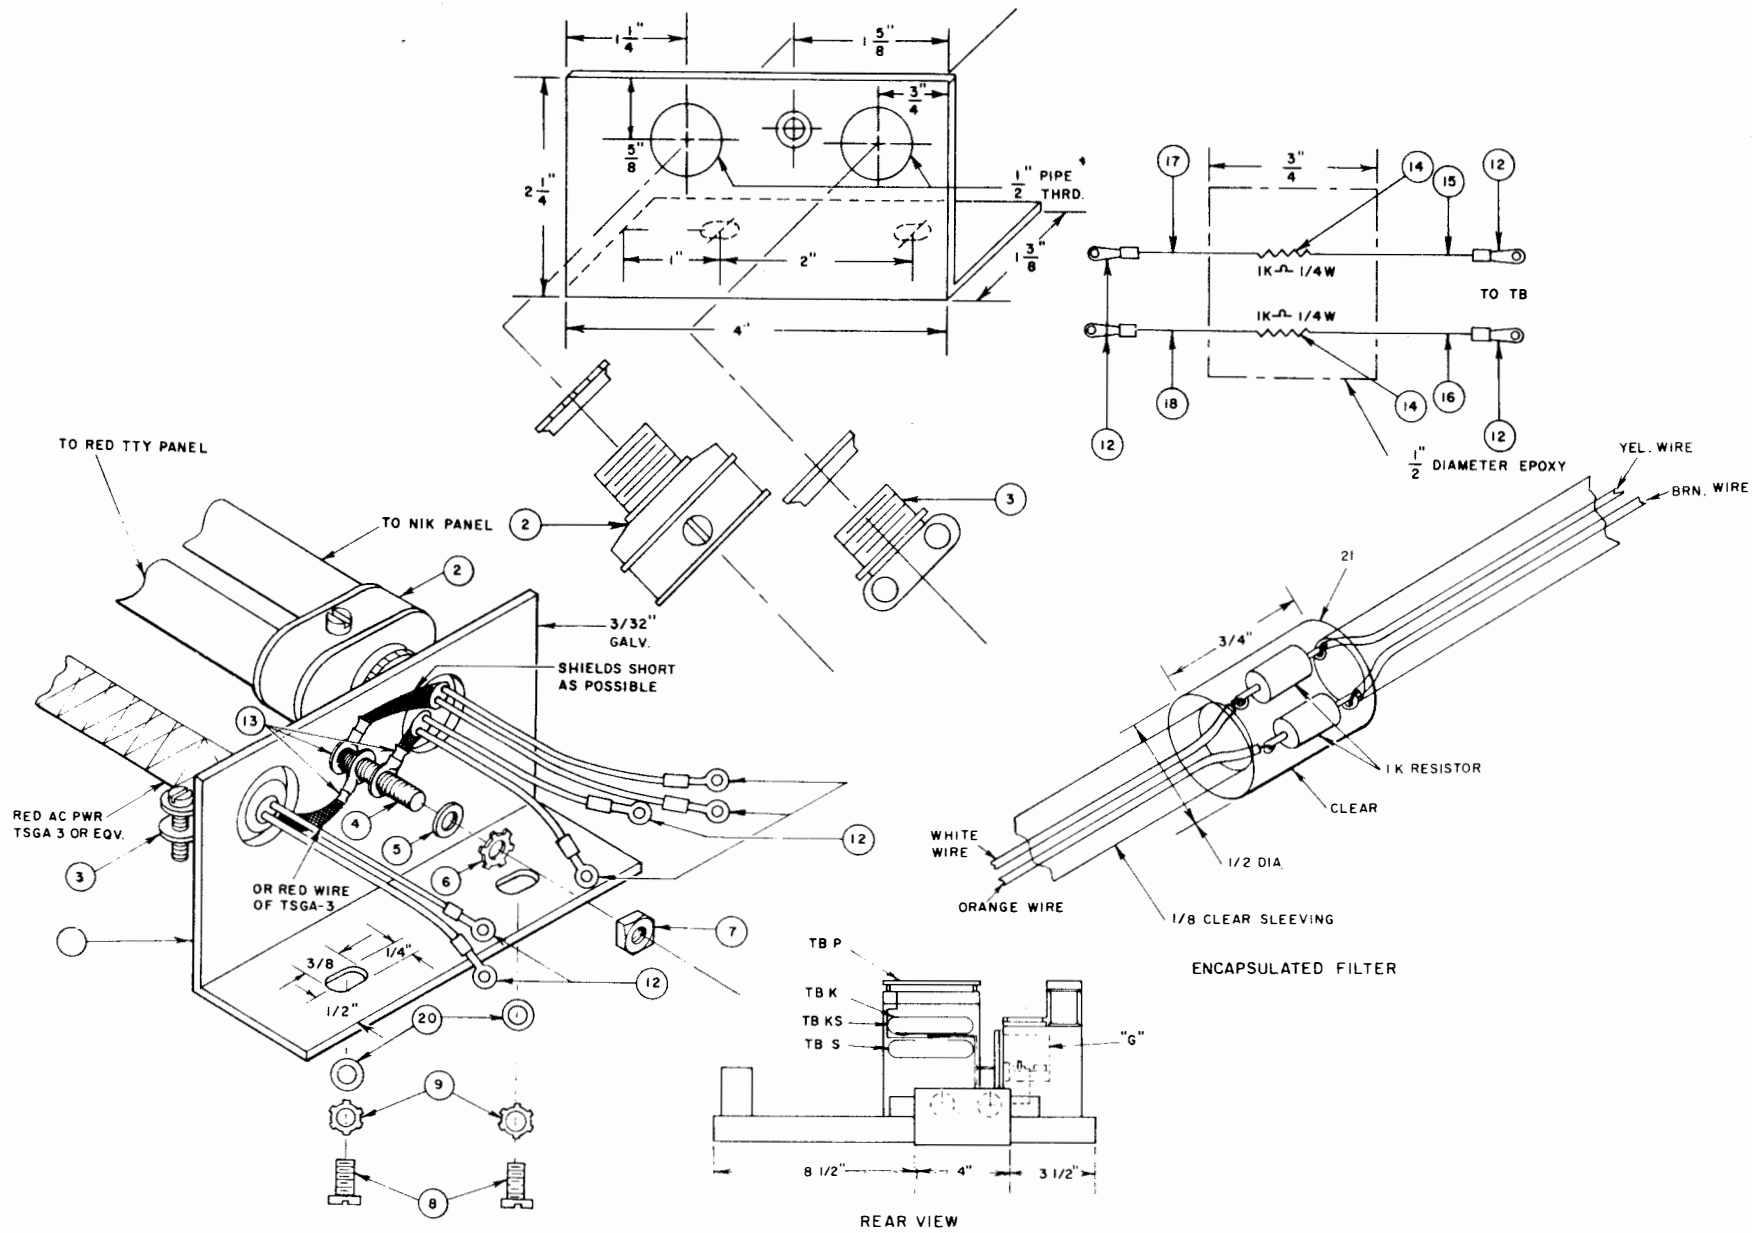

Figure 2.7 AN/UGC-20 Installation Drawing (Part 2)
1. Turn the base plate upside down and from the rear, locate the connector bracket (item 1) in position on the base plate. See installation drawing, Figure 2.7. The bracket should be 3 1/2 inches from the left side and overlapping the rear edge of the base plate. The side with the connector holes should be pointing down. Scribe the patterns for the two bolt holes on the bottom of the base plate.
3. Mount the bracket in position with the two 10-32 x 1/2 inch screws (item 8) and star washers (item 9).
4. With the base plate right-side-up and facing the rear of the unit, mount the double box connector (item 2) on the left and the box connector (item 3) on the right side of the bracket.
1. Using standard procedures, make up a two-wire shielded cable to go to the SB-3176/UGQ Patch Panel and a two-wire shielded cable to go to the SB-1210/UGQ Patch Panel. Solder red terminal lugs (item 12) on the four signal wires and yellow terminal lugs (item 13) on the cable shields.
2. Clamp the two cable ends in position using the double box connector clamp. See installation drawing, Figure 2.7.
5. Run the 115 vac power cable through the single box connector. Install two red terminal lugs (item 12) and connect the leads to pin 2 and pin 4 on terminal block S. Install a yellow terminal lug (item 13) on the power cable third wire or shield.
6. Connect the yellow lug (item 13) on all three cables to the bracket using a 8-32 x 3/4 inch screw (item 4), star washer (item 6), flat washer (item 5) and hex-nut (item 7).
1. On the back of the teletypewriter cover draw two 1 1/4 inch long vertical lines one inch and two inches to the right of the present cable opening. See installation drawing Figure 2.7. Duplicate the cutout of the present opening between these two lines leaving one inch of panel between the new and old cable openings.